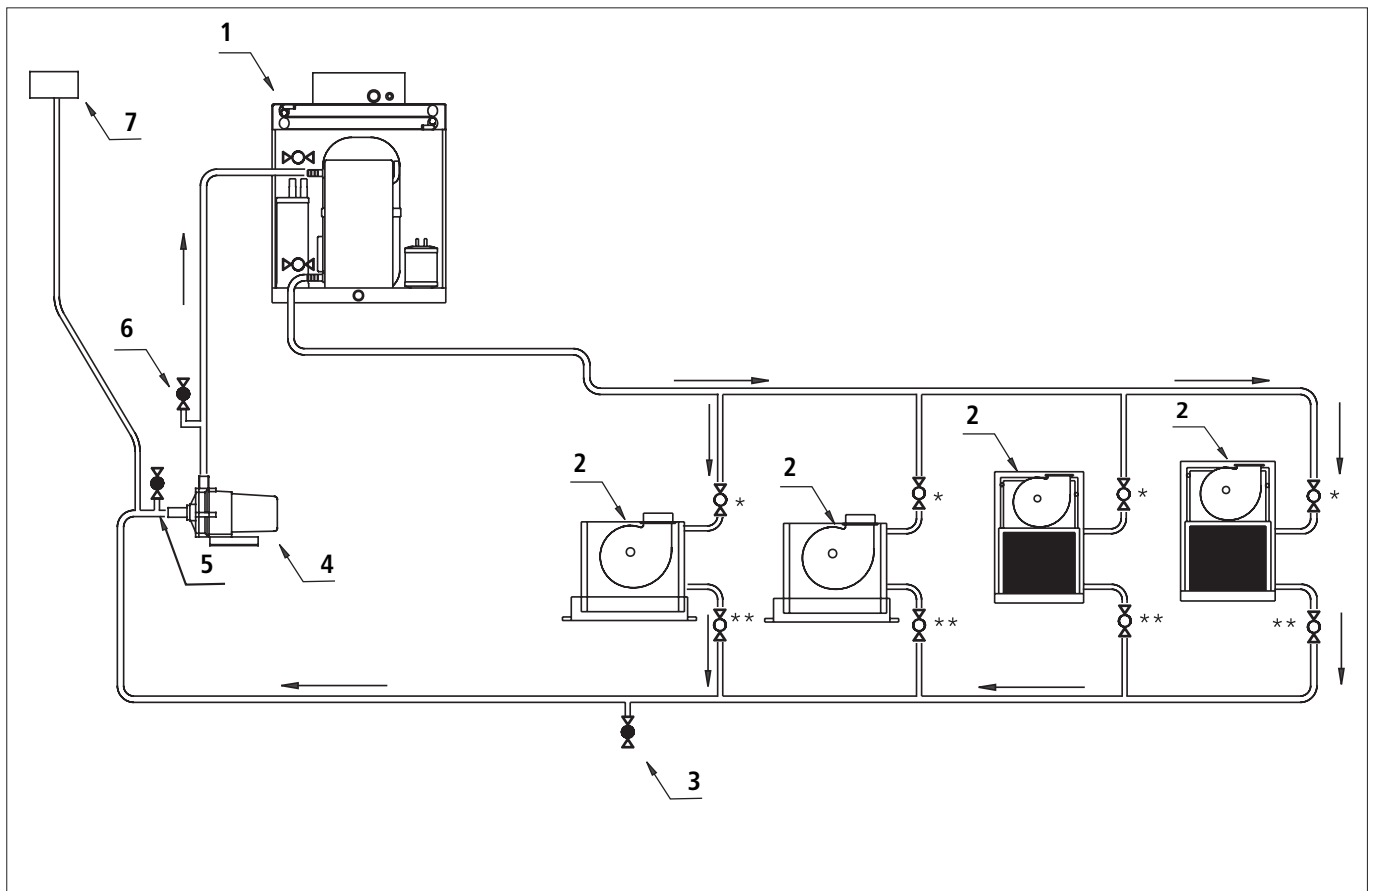

Fig.8 Example of cold water circuit - open system: 1 chiller unit and 4 air handlers
► Install cold water lines as shown in Fig.8 or Fig.23.